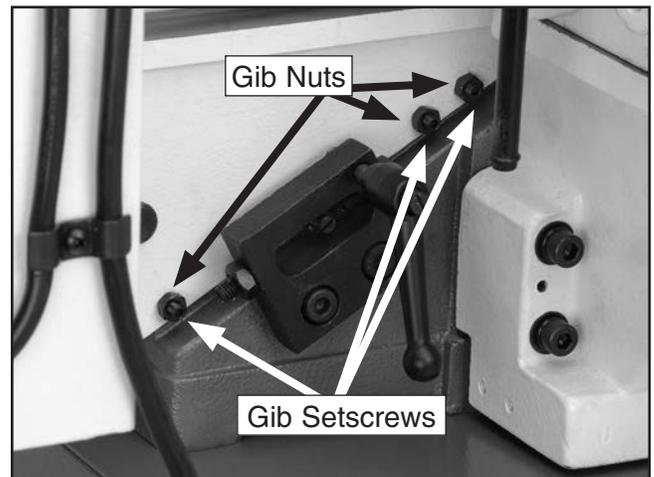

Figure 78. Outfeed table gib controls.
1. Using a 10mm wrench, loosen the two outfeed table gib nuts on the side of the jointer base (**Figure 78**).